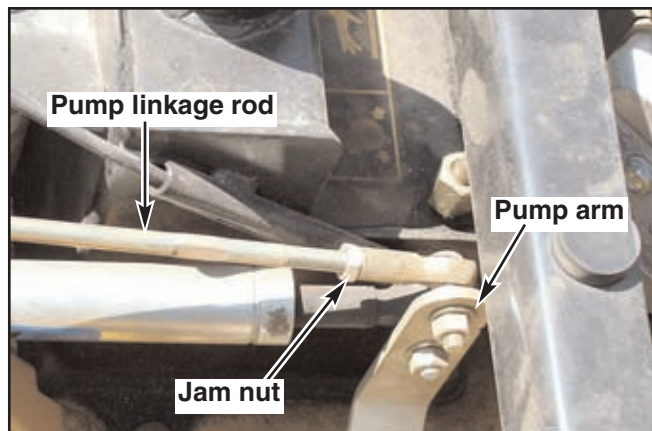

Figure 11-22
Fine adjustment to the unit's steering is made with the adjustable pump linkage rods located between the control lever and pump arms. Fig. 11-22
4. If wheel(s) are rotating forward, loosen the jam nuts on the pump linkage rods and rotate the rod to lengthen the steering control linkage until the wheel(s) come to a stop. Fig. 11-22
5. If wheel(s) are rotating in reverse then loosen the jam nuts on the pump linkage rods and rotate the rod to shorten the steering control linkage until the wheel(s) come to a stop. Fig. 11-22